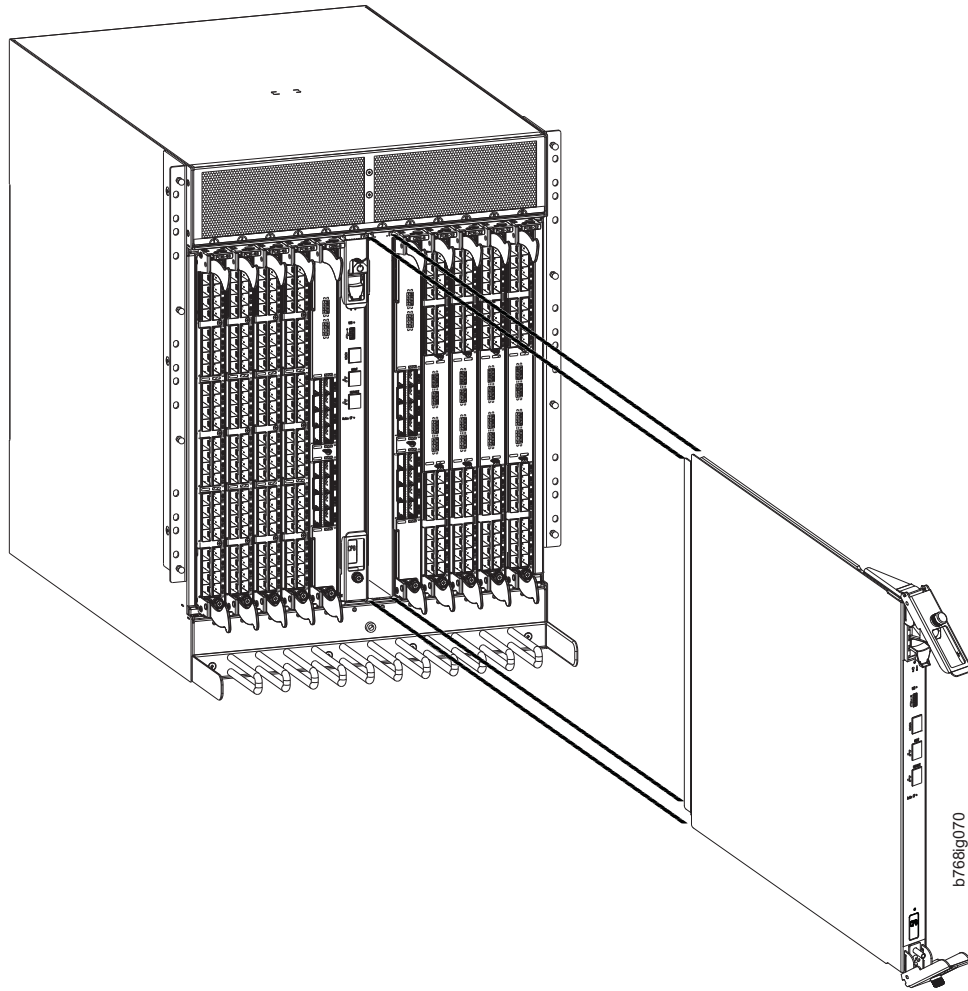

Figure 35. Removing the control processor (CP8) blade
8. Lever open both ejector handles simultaneously to approximately 45 degrees and pull the CP blade out of the chassis (see Figure 35 on page 92).